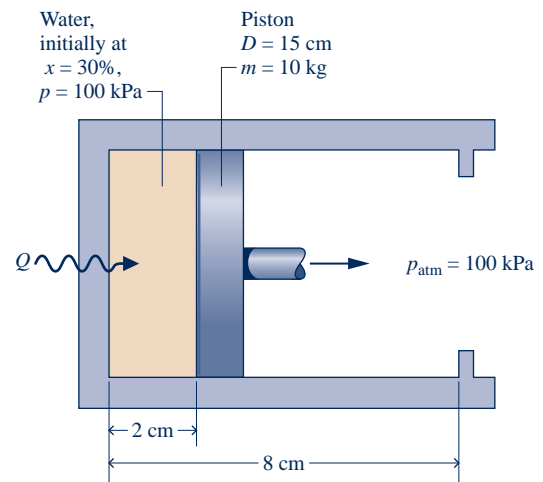

Fig. P3.76
3.76 A two-phase, liquid–vapor mixture of H₂O, initially at $x = 30\%$ and a pressure of 100 kPa, is contained in a piston–cylinder assembly, as shown in Fig. P3.76. The mass of the piston is 10 kg, and its diameter is 15 cm. The pressure of the surroundings is 100 kPa. As the water is heated, the pressure inside the cylinder remains constant until the piston hits the stops. Heat transfer to the water continues at constant volume until the pressure is 150 kPa. Friction between the piston and the cylinder wall and kinetic and potential energy effects are negligible. For the overall process of the water, determine the work and heat transfer, each in kJ.